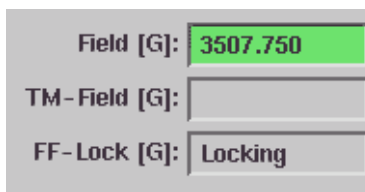

Figure 12-15 Locking the field.
5. **Click the Lock-In button.** In the FF-Lock/Teslameter dialog box click the Lock-In button. The FF-Lock will start to lock onto the current field. This procedure takes approximately 3-5 seconds and the FF-Lock box in the monitoring panel informs you of the progress. (See Figure 12-15.)